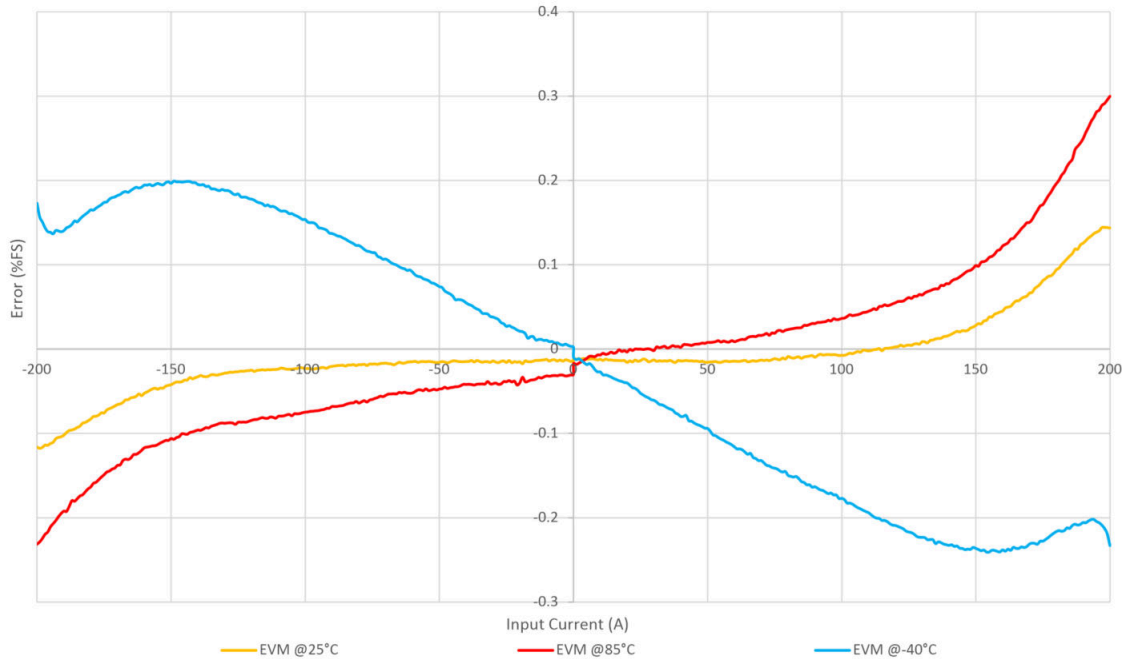

Figure 3-3. AMC-AMP-200A-EVM Total Error %FS Results
7. Plot calculated results against input current, I_{IN} . Results shown in Figure 3-3 are taken over temperature from two samples.